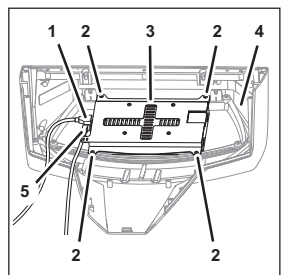

Fig. 36
5. Disconnect the electrical cables (Fig. 36/1 and 5) on the display.
6. Remove the fastening bolts (Fig. 36/2) from the retaining plate (Fig. 36/3).
24. Position the retaining plate (Fig. 36/3) with display within the taxi cab hood (Fig. 36/4)
25. Attach the retaining plate (Fig. 36/3) using the fastening bolts (Fig. 36/2).
26. Connect the electrical cables (Fig. 36/1 and 5).